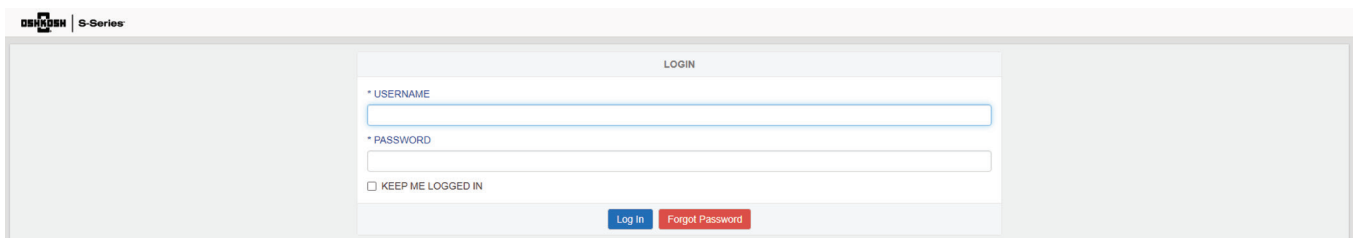

Figure 7
28. Log into ClearSky (<https://clearsky.mcneiluscompanies.com>) See Figure 7. If an account needs to be created contact ClearSky support (clearskysupport@oshkoshcorp.com).